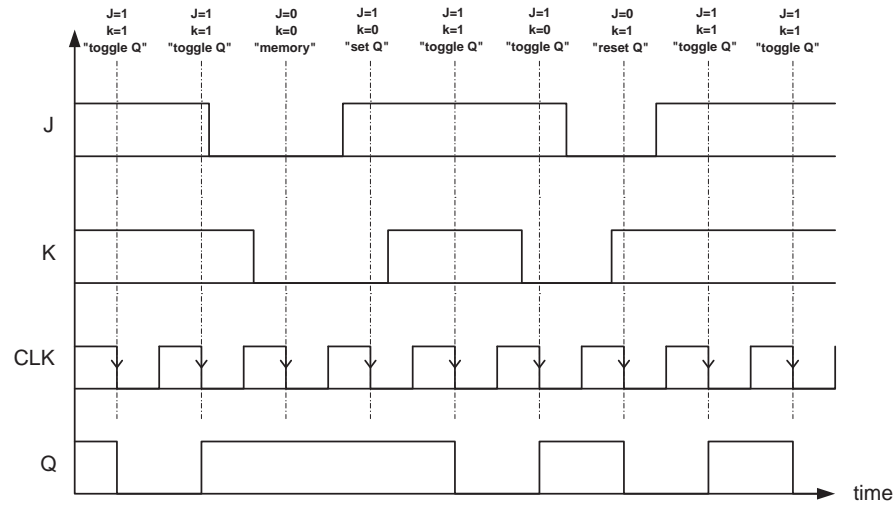

Figure 12: Typical waveform in a negative going transition JK flip flop. The initial state assumed as  $Q=“1”$ .
- (5.4) The question needed to have the state of the JK inputs as well as the initial state of the flip flop specified to be answered correctly. A typical set of waveforms might be as shown in Fig. 12. The truth-table of the clocked JK-FF is shown in Table 3.